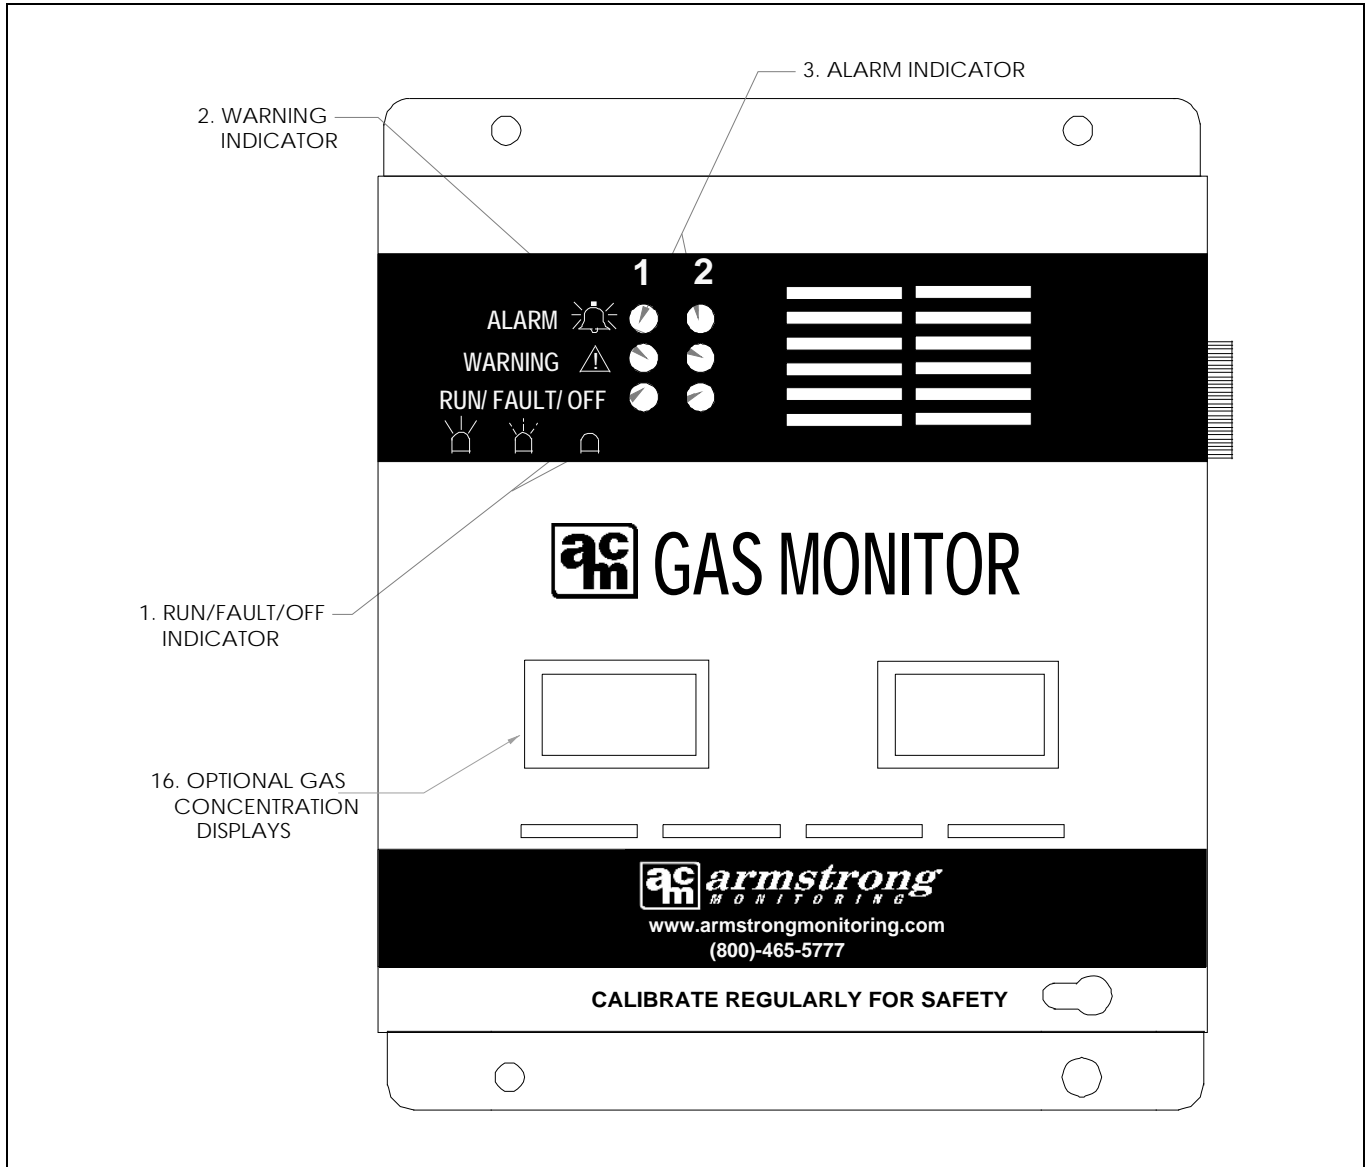
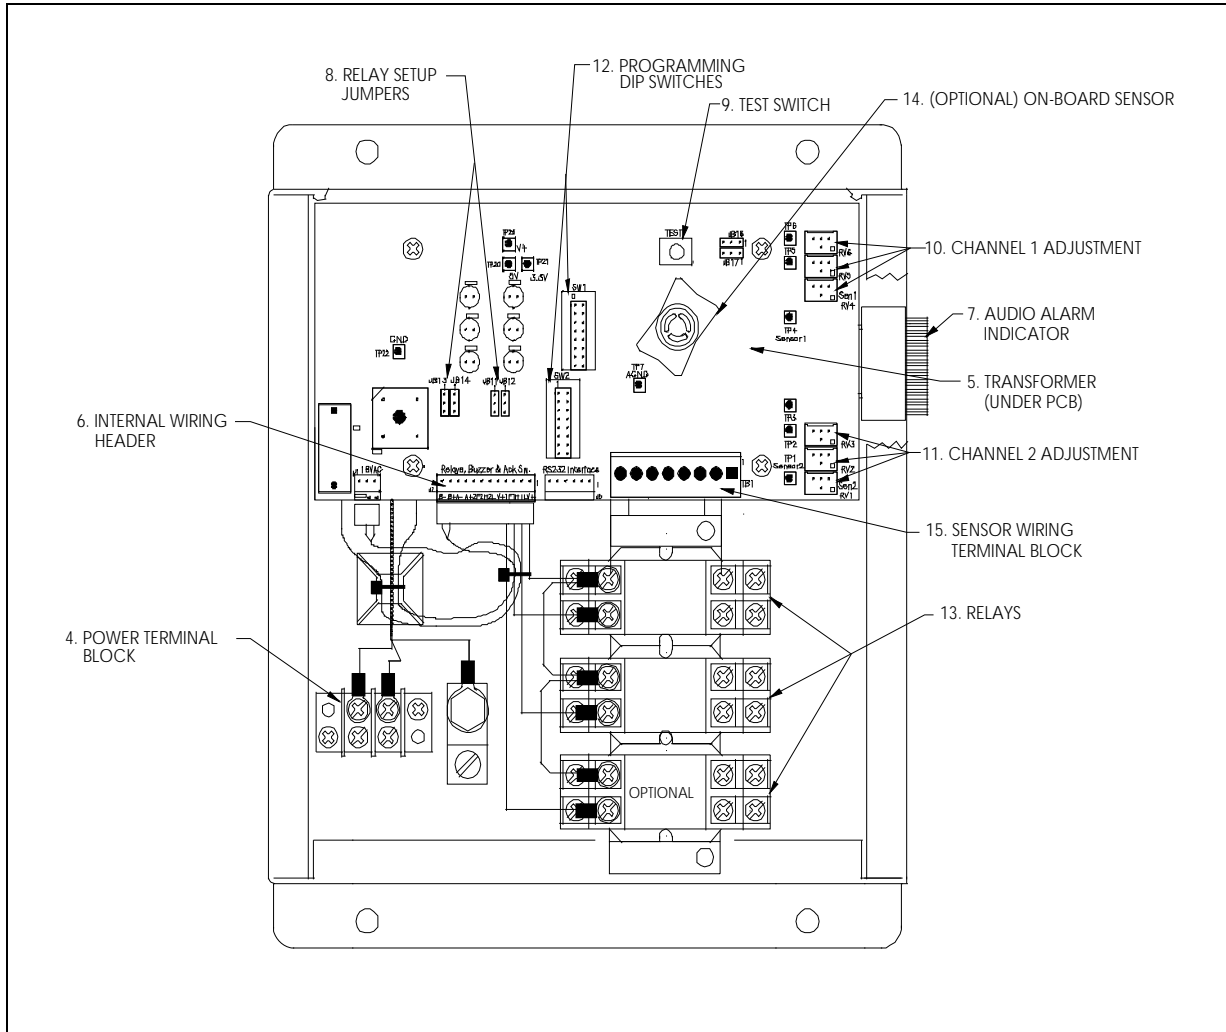

Figure 3-1 Gas Monitor 1A2, Front Cover
Figure 3-2 Internal Features of the Gas Monitor 1A2
The 4-20mA transmitters are used to monitor gases in up to two remote locations. Eight sensor modules can be daisy chained per each of the two channel inputs allowing larger areas or zones to be effectively monitored. The monitor comes with the following features, see Figure 3-1 and Figure 3-2.
Each transmitter, sensor module or remote sensor connects to a set of sensor terminals (-, S#, +) on the signal input terminal block located on the circuit board, see Figure 3-2, item 15. The signal input terminal block is located in the bottom right corner of the PCB and is capable of wiring two channels of inputs as shown in Figure 4-9. The following sections detail each of the remote transmitter or sensor wiring.